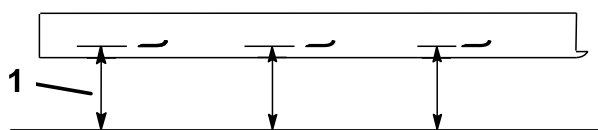

Figure 65
2. Measure from a level surface to the cutting edge, position A, of the blades (Figure 65). Note this dimension.